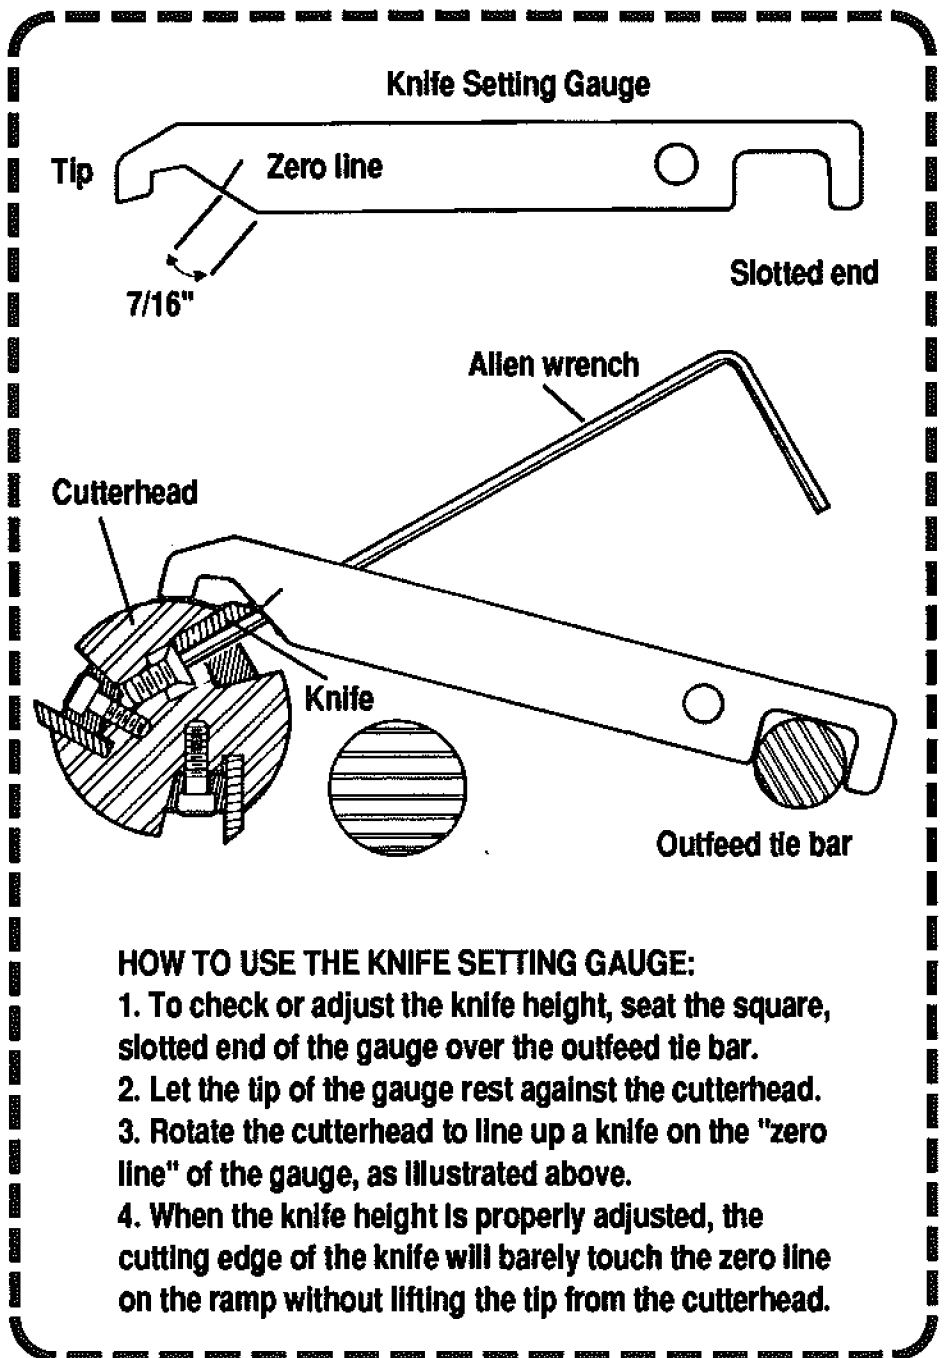

Fig. 64
4. Check the height of one knife - Use the knife setting gauge supplied with the planer to check the height of the knives. Use an awl to scribe a line, on both sides of the gauge, perpendicular to the ramp angle of the gauge, $7/16"$ from the lower corner of the ramp. This is the zero setting line, as shown in Fig. 64. Place the square slotted end of the gauge over the right end of the outfeed tie bar, and let the tip of the gauge rest on the cutterhead. The knife will be positioned between the tip and the angled ramp. Turn the cutterhead to position a knife under the angled ramp of the gauge, as in Fig. 64.
Using the wrench as a lever, slowly rock the cutterhead back and forth so that the knife passes under the ramp of the gauge. If the knife height is correct, the cutting edge will touch the ramp at the mark without lifting the tip of the gauge from the cutterhead. See Figs. 64 and 65.